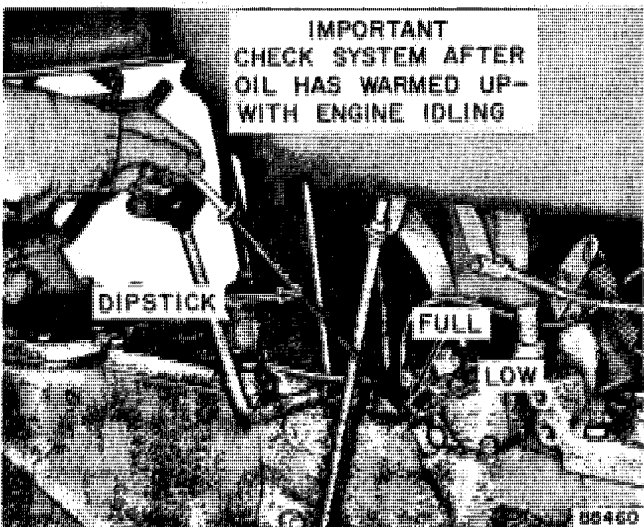

Figure 18 - Checking Torque Converter Oil Level
3. Place the Shuttle Shift lever in neutral position and have the engine IDLING. Check the oil level with the dipstick, see Figure 18. The most accurate reading will be made if the dipstick is held with the curved top toward the rear, then inserted and withdrawn very rapidly. This will minimize the chance of oil being thrown on the dipstick by gears.